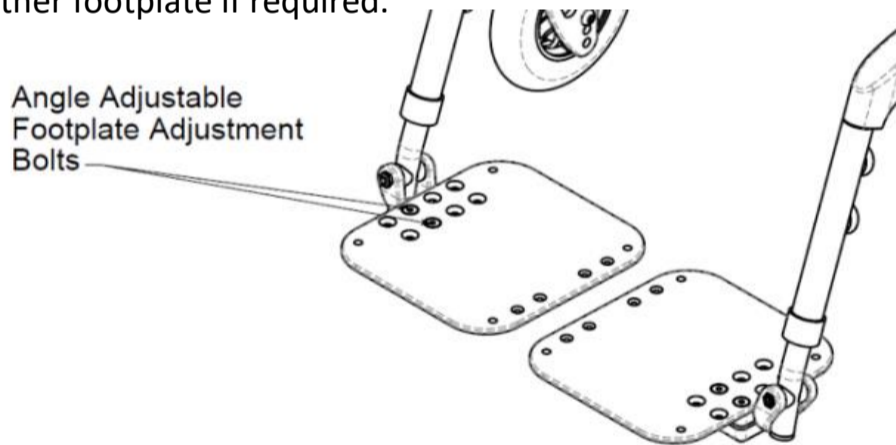

Figure 16.20: Angle Adjustable Footplates
1. Loosen the angle adjustable footplate adjustment bolts as shown in Figure 16.20.
1. Remove the angle adjustable footplate adjustment bolts as shown in Figure 16.20.
1. Loosen the angle adjustable footplate adjustment bolts (See Figure 16.20).
1. Remove the angle adjustable footplate adjustment bolts shown (See Figure 16.20).